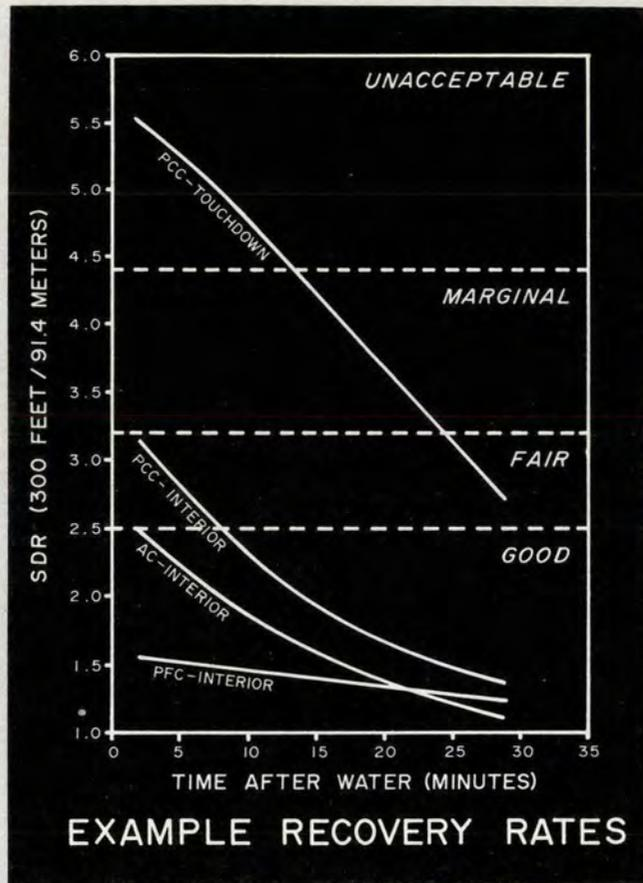

Figure 1
**D**uring the past few years, several significant changes have occurred in the availability and lead content of general aviation aircraft fuels (figure 1). These changes have left many doubts and much controversy over what fuel should be used. Since many *Aerospace Safety* readers are operators of aircraft in this category, we felt it would be beneficial to pass on the recommendations of the major engine manufacturers on the subject of aviation fuel.
The first treatment is for concrete pavements. This generally puts some dimensional grooves into the surface either at the time of construction (plastic grooving or wire combing) or by cutting into the surface after a period of operation that has shown the surface is susceptible to hydroplaning or skidding. The second method of treatment are those applied to asphaltic type pavements. While grooving has been used successfully for asphalt at commercial airports, it is not generally used on USAF asphalt runways. The primary method of treatment on asphalt has been one of several types of skid/hydroplaning resistance surface courses. These may vary all the way from overlays which improve surface drainage (with no special surface preparation) to application of Porous Friction Surfaces which provide for water drainage paths through the pavement. See Figure 1 for comparison of recovery rates on different surfaces.
frictional characteristics in a slightly different manner and the results are jointly used to evaluate each runway. Table 1 provides a description of the results from both pieces of equipment. Skid testing divides the runway into four distinctive segments: primary touchdown, primary braking, edge, and secondary touchdown. Each segment of the runway is evaluated and results presented to reflect expected skidding/hydroplaning potential. The edge section is evaluated to obtain data on the wear characteristics of the runway. Table 2 gives some typical ranges of hydroplaning potential obtained for the different sections and the changes that can occur between different sections of the runway. Figure 1 points out the varying recovery characteristics that are anticipated for several sections and types of pavement surfaces. These recovery graphs are indicators of the time period that could be expended
**Q.** FLIP General Planning states that I must file my IFR flight plan to an initial approach fix (IAF). My aircraft is VOR only so I can't file to either of the labeled IAF's in Figure 1. Since a procedure turn is depicted off of the